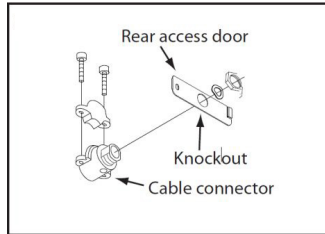

FIGURE 3
- C)** Install 3/8" cable connector (included) for the supply wire following National Electric Code and local codes through this knockout on access door. (Figure 3)